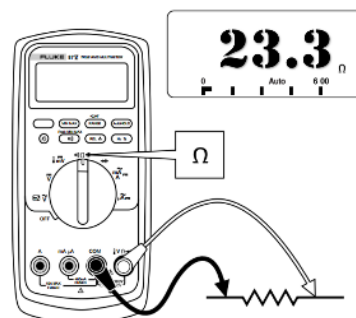

Figure 72. DMM for ECTE Cable.
STEP 27 | Measure resistance (**Figure 71**). Measurement for the ECTE cap heater component is 23 ± 5 ohms (**Figure 72**). Measurement for the sample tube heater is 48 ± 5 ohms.